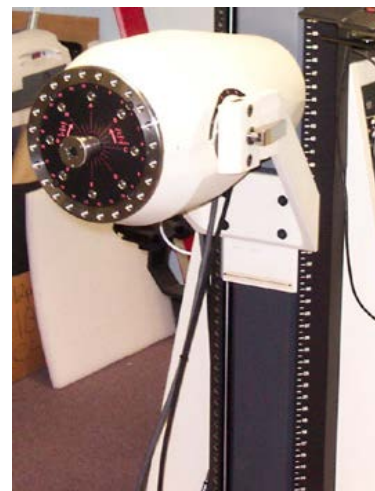

Figure 1g
- Step 13. Use the "Up/Down" switch at the end of the long black cable on the side of the vertical column to move the exercise head to a height of 41" (104 cm)' (Figure 1g).